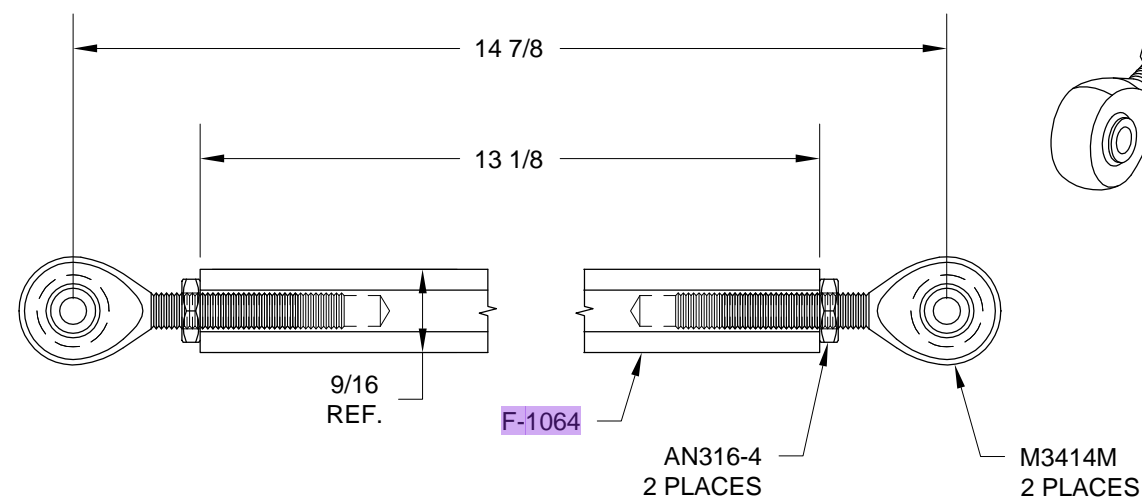

FIGURE 1: ASSEMBLING THE AILERON PUSHROD
Step 1: Assemble two F-1064 Aileron Pushrod Assemblies as shown in Figure 1.